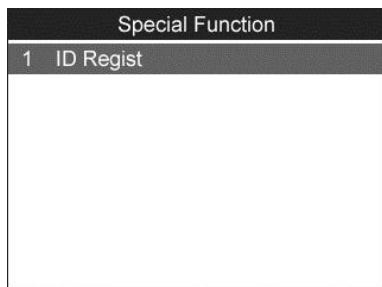

Figure 14.12
- 1) From **Special Function** Menu, use the **UP/DOWN** scroll button to select **ID Regist** function. (Figure 14.12)